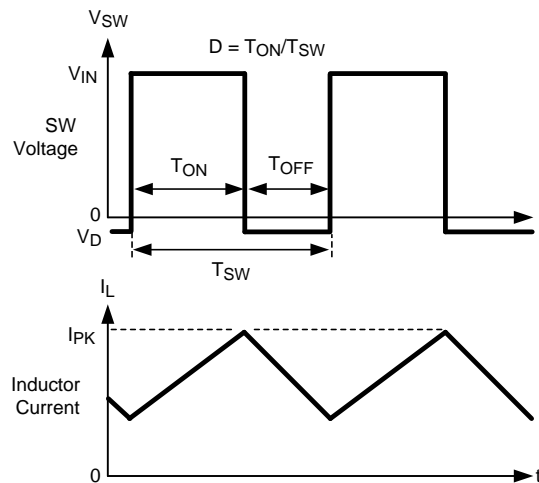

Figure 7. LM2734Z Waveforms of SW Pin Voltage and Inductor Current
In *Functional Block Diagram*, capacitor C_{BOOST} and diode D2 supply the gate-drive current for the NMOS switch. Capacitor C_{BOOST} is charged through diode D2 by V_{IN} . During a normal switching cycle, when the internal NMOS control switch is off (T_{OFF}) (refer to Figure 7), V_{BOOST} equals V_{IN} minus the forward voltage of D2 (V_{FD2}), during which the current in the inductor (L) forward biases the Schottky diode D1 (V_{FD1}). Therefore the voltage stored across C_{BOOST} is calculated using Equation 1.